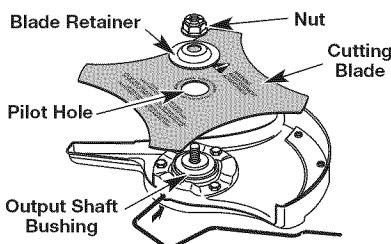

Fig. 6
1. Place the cutting blade on the output shaft bushing (Fig. 6).